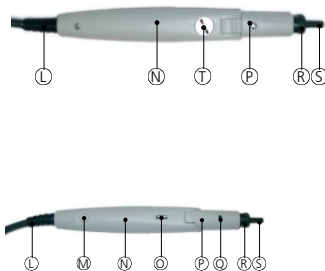

Figure 8
The probe of the **RC** is shown in figure 8. The probe head is adjustable to three angles (0°, 60° and 80°). It is adjusted by turning the locking screw (T) at the bottom of the probe using a coin or a screw driver.